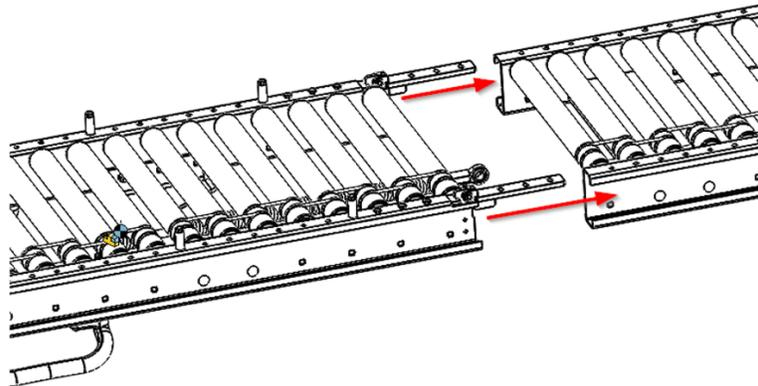

Figure 5: RLVD CG Installation-1
2. Slide the gate hinges into the conveyor the gate is mounting to. (Refer to Figure 5)